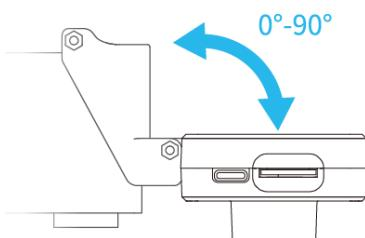

Figure 3.10 Adjust angle of AI camera
Step 5 Adjust the angle of AI camera (range: 0°~90°), as shown in Figure 3.10.